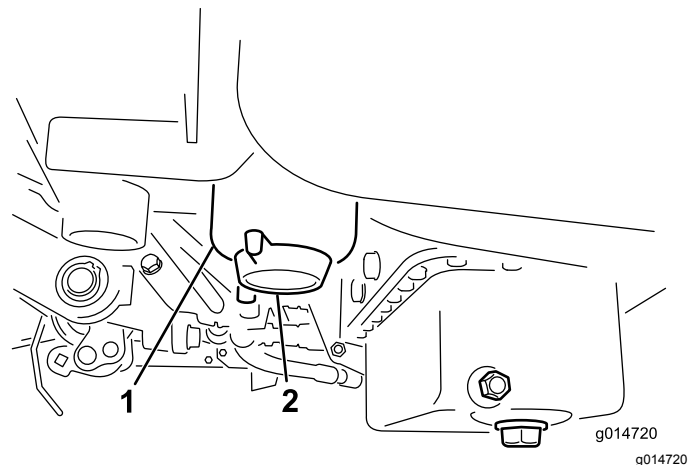

Figure 30
2. Clean the area where the filter canister mounts (Figure 30).
4. Open the filter drain plug (Figure 30).